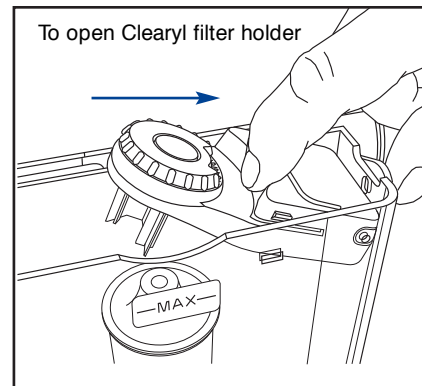

Fig. 6
1. Removable water tank with lid and Clearyl filter holder (Fig. 6 & 7)